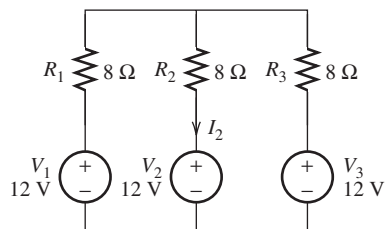

FIGURE P3.63 Circuit for Problem 3.63.
- 3.63 (B) Find the current I_2 in Figure P3.63 using the superposition technique.